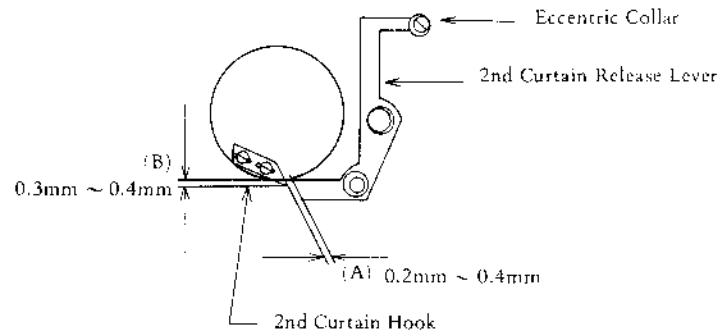

Fig. 20
- 1) Separation "A": 0.2 ~ 0.4mm See Fig. 20.
- 2) Amount of engagement "B": 0.3 ~ 0.4mm See Fig. 20